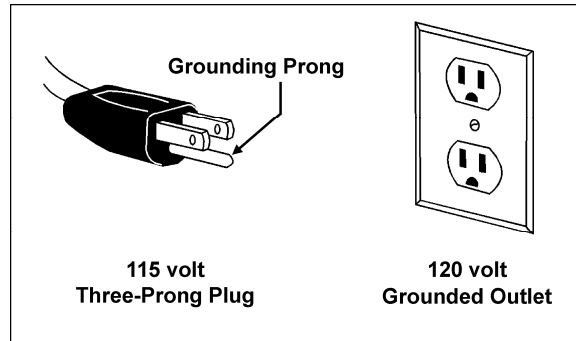
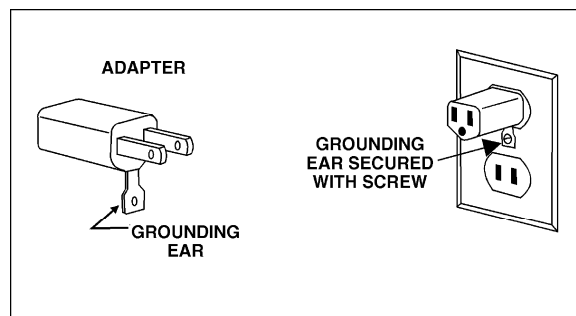
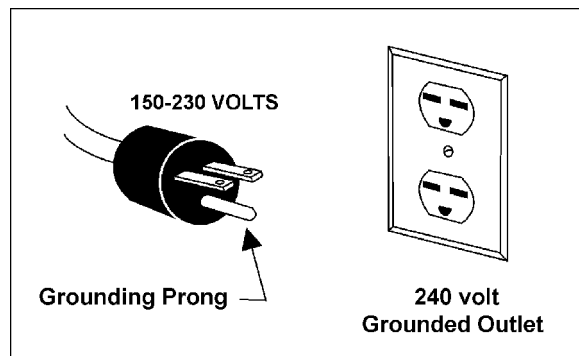

Figure 8
Figure 9
Figure 11
This machine must be grounded. In the event of a malfunction or breakdown, grounding provides a path of least resistance for electric current to reduce the risk of electric shock. This dovetailer is equipped with an electric cord having an equipment-grounding conductor and a grounding plug similar to the one illustrated in Figure 8. The plug must be inserted into a matching outlet that is properly installed and grounded in accordance with all local codes and ordinances.
As received from the factory, your dovetailer is ready to run at 115 volt operation. This dovetailer, when wired for 115 volts, is intended for use on a circuit that has an outlet and a plug that look like the ones illustrated in Figure 8. A temporary adapter, which looks like the adapter as illustrated in Figure 9, may be used to connect this plug to a two-pole receptacle, as shown in Figures 8 and 9, if a properly grounded outlet is not available.
The temporary adapter should only be used until a properly grounded outlet can be installed by a qualified electrician. **This adapter is not applicable in Canada.** The green colored rigid ear, lug, or tab, extending from the adapter, must be connected to a permanent ground such as a properly grounded outlet box, as shown in Figure 9.
3. The 115 volt attachment plug (Figure 8), supplied with the dovetailer, must be replaced with a UL/CSA listed plug suitable for 230 volt operation, similar to the one illustrated in Figure 11. Contact your local authorized WMH Tool Group service center or qualified electrician for proper procedures to install the plug. The dovetailer must comply with all local and national codes after the 230 volt plug is installed.